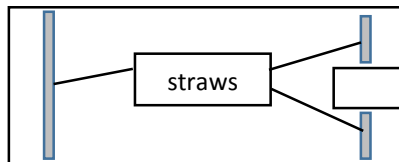

Figure 3 Attaching the straws
Step 3 – Cut 3 sections of straw to fit on the body of the car like in the illustration below. Glue them in place using a glue gun (Figure 3). This will be the underside of the car.